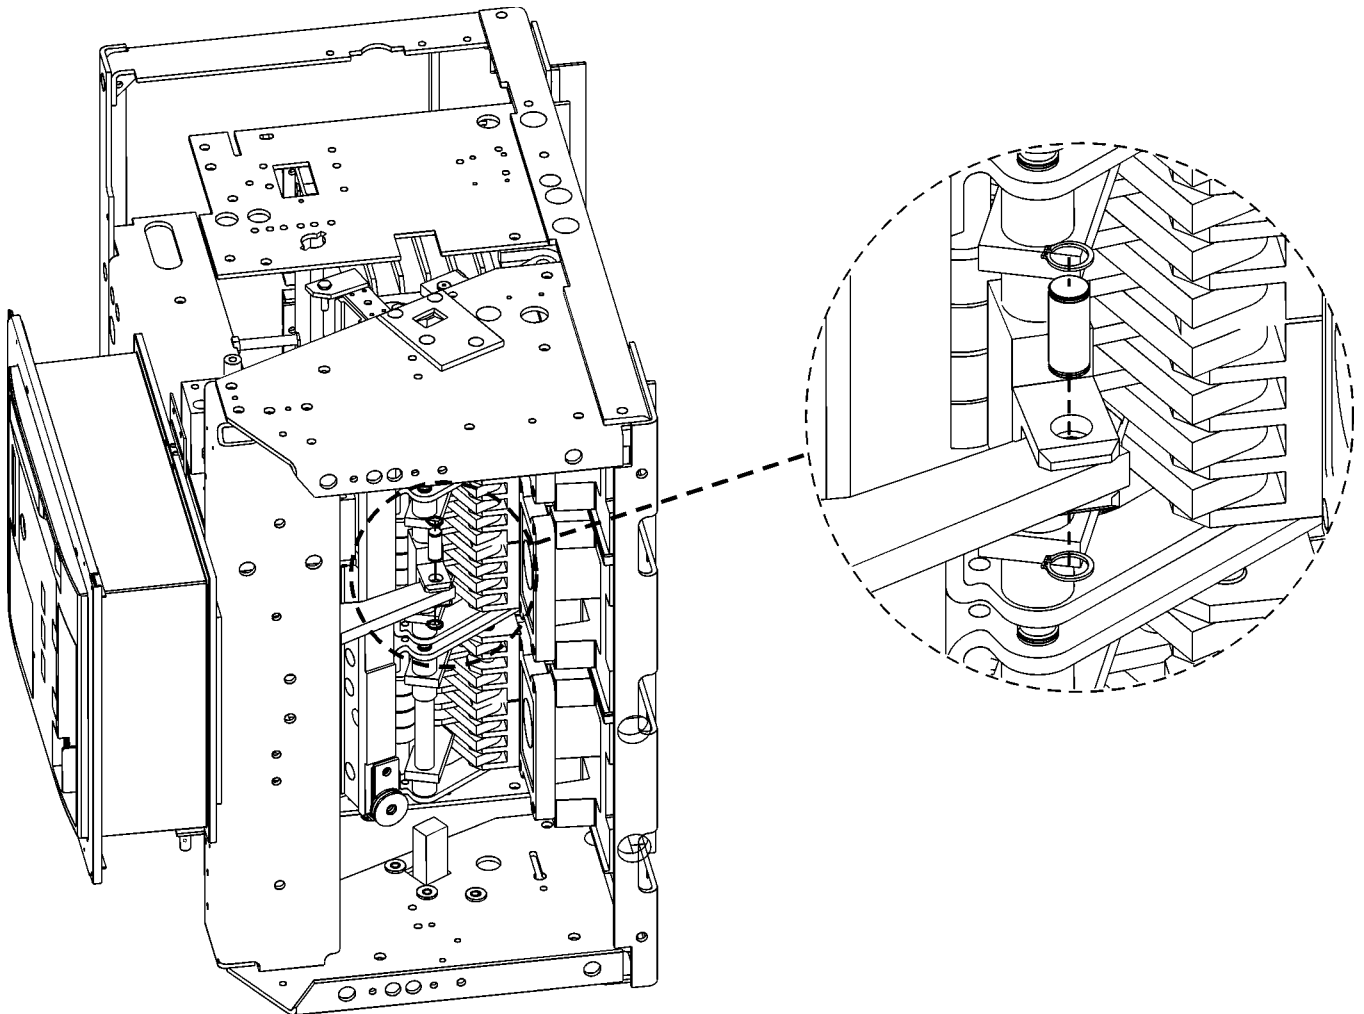

Figure 5-6. Removal of the clevis pin connecting the center pole to the crossbar.
7. Remove one of the snap rings on the clevis pin connecting the center pole to the crossbar, then remove the pin, as illustrated in Figure 5-6.
11. Align the hole in the bar from the center pole mechanism with the attachment point on the crossbar, then secure with the clevis pin and snap ring removed earlier, as illustrated in Figure 5-6.